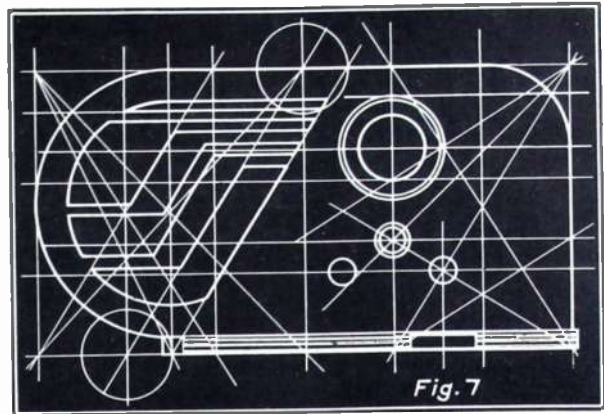

Fig. 7
Having completed the layout of the two major panels it now remains to combine them with the third or empty section and clean up the layout. Fig. 7 illustrates such a combination with the construction lines retained for ease in analyzing the procedure. The base area represents the difference existing between the diameter of the end arc and the actual height of the original section. It is started at the intersection of the diagonal J'J with the outer or limiting arc. A modernistic touch is added to the composition by the inclusion of the three chrome bands on the pedestal so formed. The name plate, in Root 5, is centered under the volume control (V) to get away from strict adherence to balanced construction.
We will not take up the matter of color or finish to be applied to the design, this falling more in the premise of the cabinet engineering section than the student designers' desk. However this phase should be considered from the standpoint of practicability in formulating the general theme. The use of plastic materials in cabinet work has opened new fields to the artist for original work in both shape and color, but here too he must consider the limitations of his medium so that on completion of the layout, the product can be sent to the moulds without a major re-design of ideas. Such a cabinet as is illustrated in Fig. 7 will lend itself to production in either wood or plastics. A very similar design created by Philco last year, became one of their most popular models from the standpoint of sales appeal. This job was marketed in wood with a contrasting inlay and its acceptance by the public was an indication of the value of good design in radio cabinet engineering. This year, a good many of the smaller models have gone to plastics for new design possibilities and the